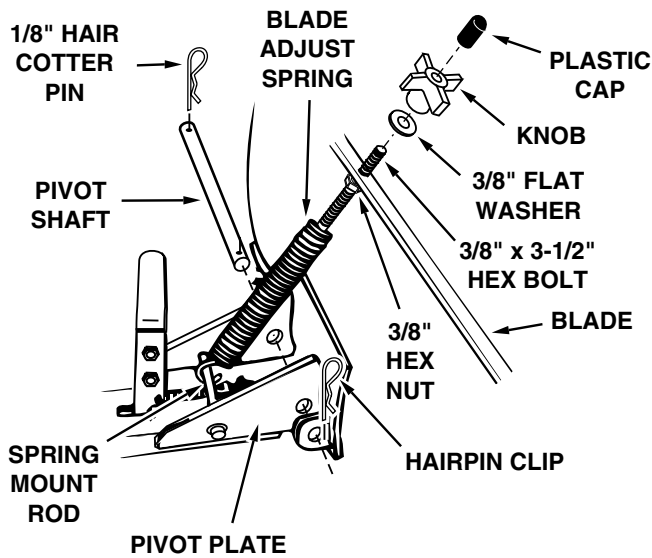

Figure 7
16. To attach the channel assembly to the blade, align the pivot plate between the welded brackets on the back of the blade. Insert the pivot shaft through the holes in the pivot plate and the welded brackets. Secure the pivot shaft with two 1/8" hair cotter pins. See figure 7.
17. Hook the blade adjust spring over the spring mount rod as shown. Insert the bolt through the hole at the top of the blade and assemble the 3/8" flat washer and the knob onto the bolt. Turn the knob until it is tight. Place the plastic cap over the end of the bolt. See figure 7.